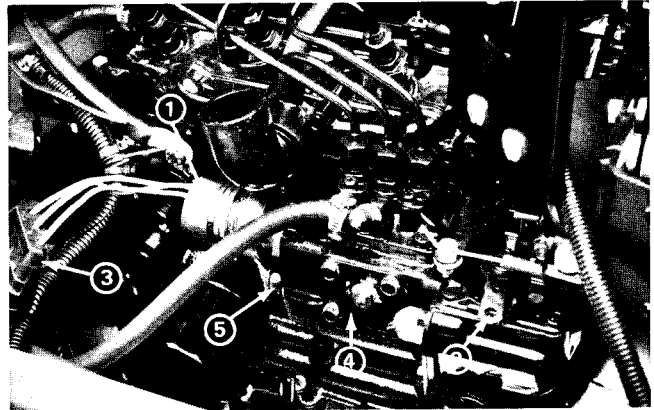

Figure 28
1. Stop the engine. If the engine will not stop when the ignition key switch is turned off, manually push the stop lever (Fig. 28) toward the rear of the machine until the engine stops.
1. Remove the governor tie rod cover (Fig. 28).
6. Remove the cover cap screw from the engine to get access to the solenoid nut (Fig. 28).
2. Remove the governor tie rod cover (Fig. 28).